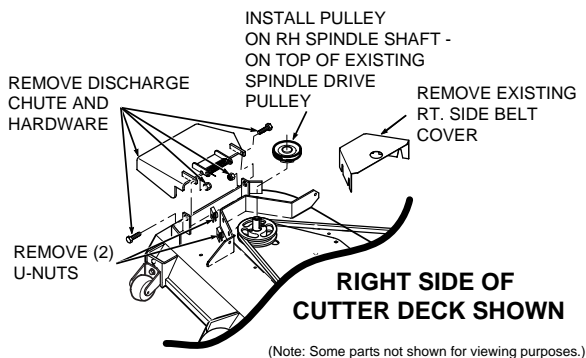

FIGURE 5-1
2. Remove the discharge chute from the cutter deck. See Figure 5-1.